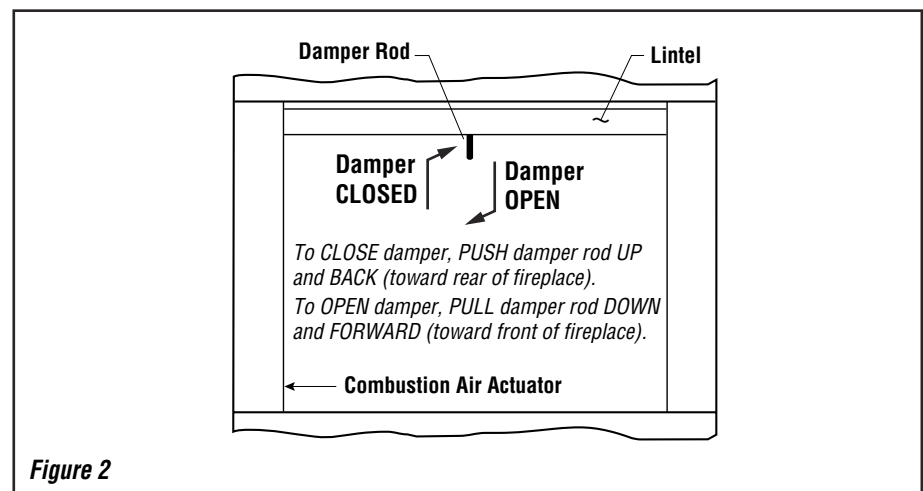
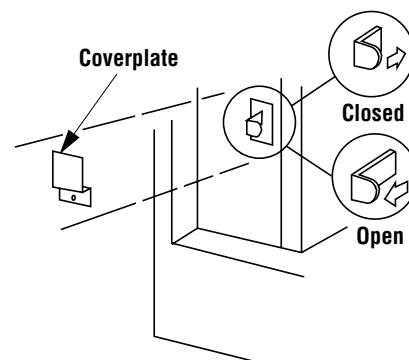

Figure 2
Figure 4
1. To properly start a fire in the fireplace, first check the operation of the flue damper (see "DAMPER CONTROL" and *Figure 2, below*).
The actuator for combustion air system is standard on all fireplaces but must not be operated if the complete system is not installed. See *Figure 4* and refer to *Figure 2*.
To provide outside combustion air to the firebox, the LBR and LBC Series fireplaces have a pre-installed control lever. A cover plate has been mounted over this control lever only if the outside air kit has not been attached. The control lever is located on the left hand or closed side of the fireplace behind the screen. To open the air damper, pull the lever all the way out. To close, push the lever all the way in. (*Figure 4*)